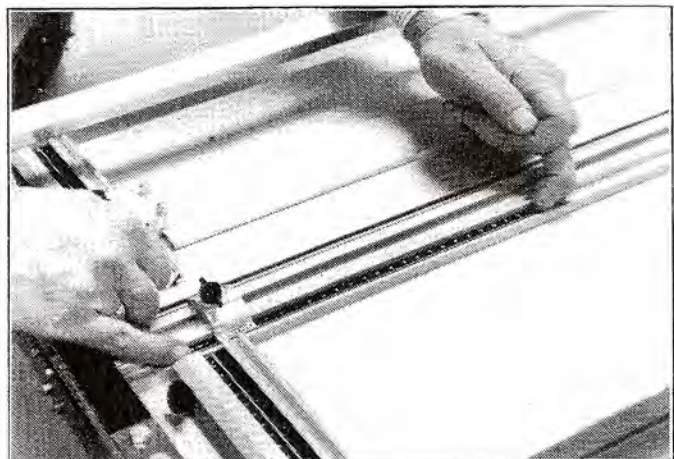

Fig. 6
7. If the reading on the end-of-cut scale (11) is not precisely the same as the corresponding measurement on the mountboard, re-calibrate the end-of-cut scale by sliding it within the slideway (19) until the reading at the end-of-cut stop (12) coincides exactly with the above measurement (fig 6). **DO NOT** move the end-of-cut stop.
8. If the reading on the margin guide scale (14) is not precisely the same as the corresponding measurement on the mountboard, re-calibrate the margin guide scale by sliding it within the back squaring arm (16) until the reading at the margin guide stop (15) coincides exactly with the above measurement. Do not move the margin guide stop.